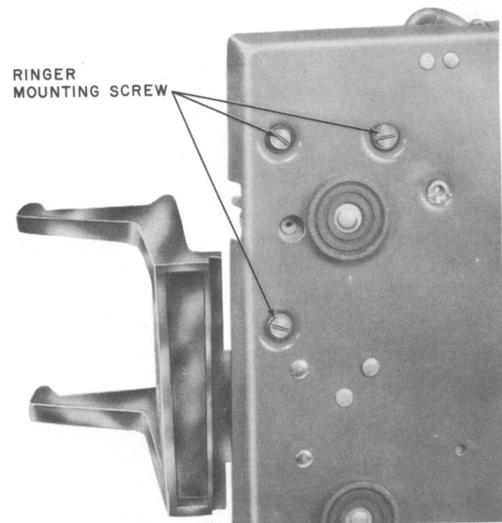

Fig. 7—Location of Ringer Mounting Screws
- (1) Remove housing.
- (2) Loosen dial mounting plate and move to left.
- (3) Disconnect ringer leads.
- (4) Remove three ringer mounting screws from underside of baseplate (Fig. 7).
- (5) Lift out ringer.